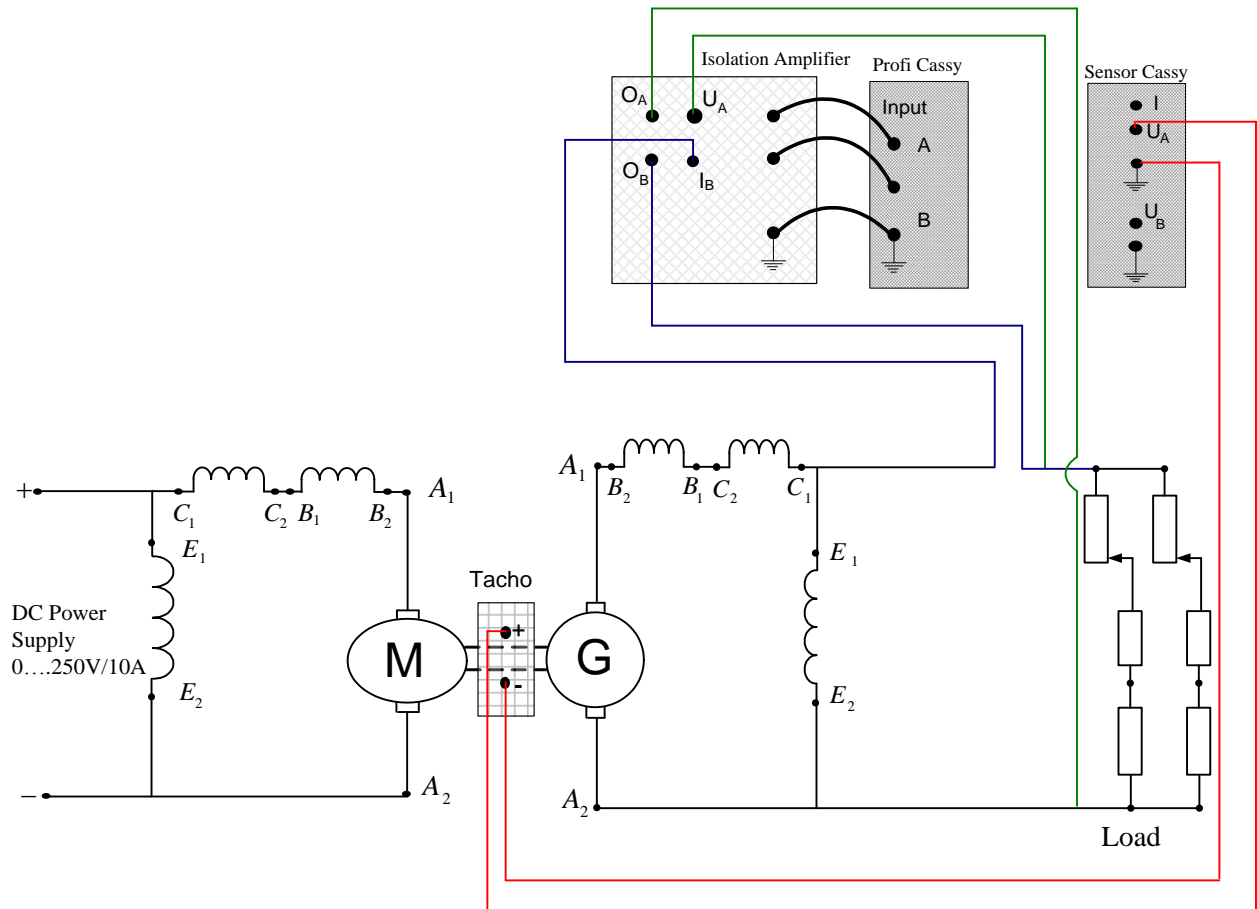

Figure 3: Load Characteristic Set Up for Shunt DC Generator
32. Connect the circuit as shown in Figure 3 using Cassy measurement Connection for load voltage, for load current, and for rotor speed. Note that at this stage the load resistance value has to be at 100%.